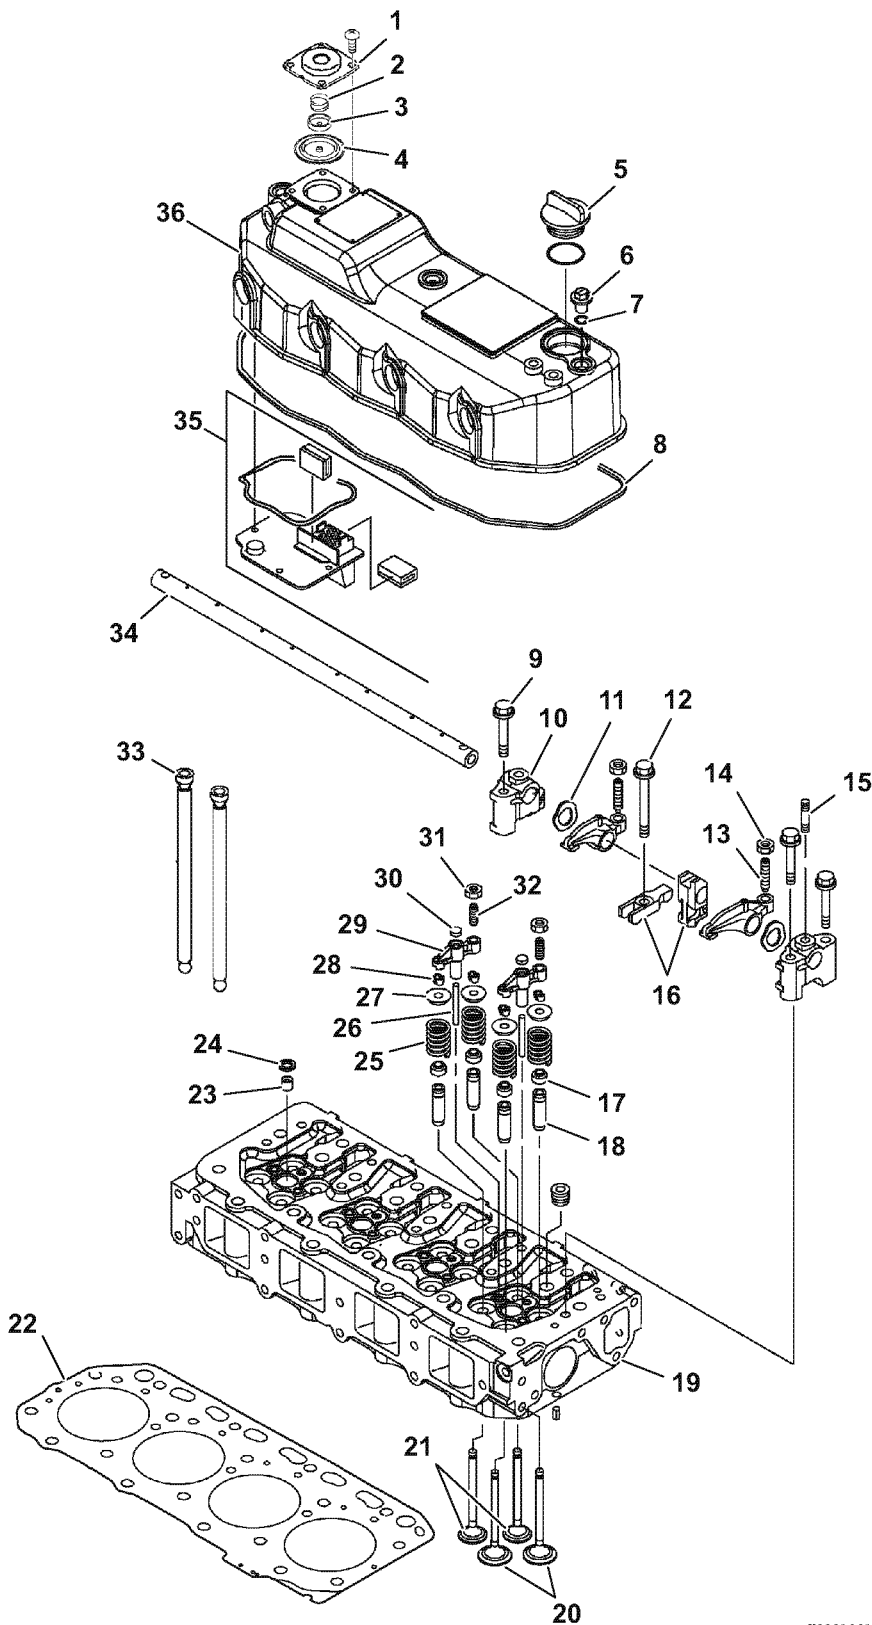

**Figure 6-38**
6. Install each glow plug (**Figure 6-38, (1)**), and tighten it with the specified torque. Install each electrical harness (**Figure 6-38, (1)**), and tighten it with the specified torque.